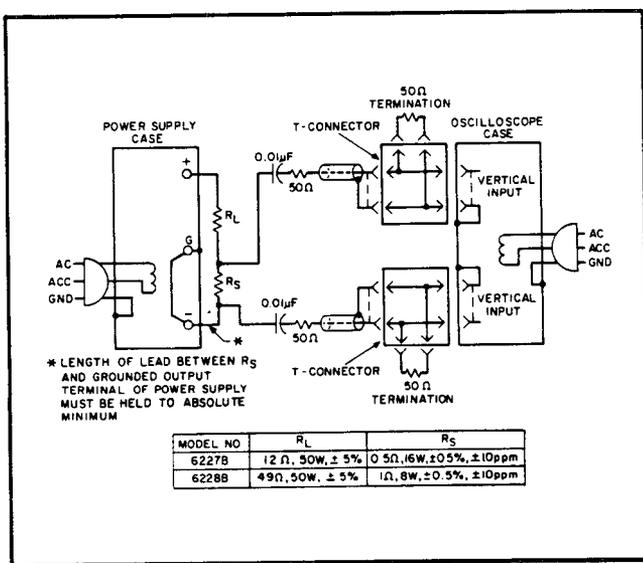

Figure 5-13. Constant Current Noise Spike Test Setup
- a. Connect test setup shown in Figure 5-13.